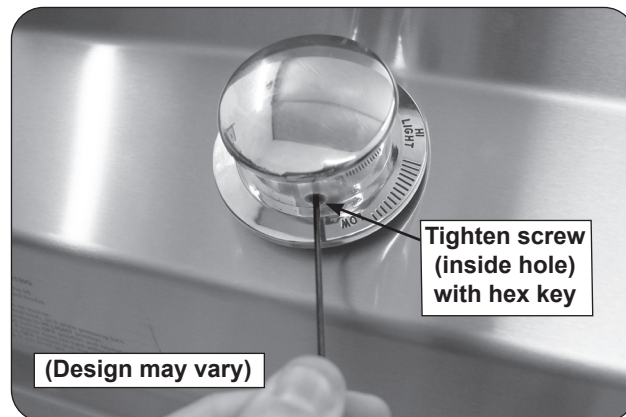

Fig. 29-4 Tighten screw to lock knobs
3. Insert the included .078" (2mm) hex key through the small hole located on the side of the knob and fully tighten the screw (see Fig. 29-4).